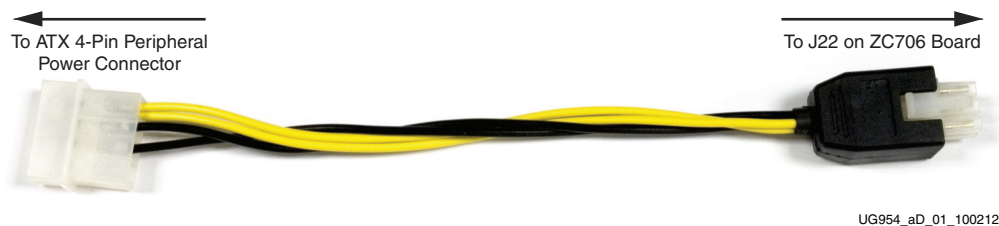

Figure D-1: ATX Power Supply Adapter Cable
When the ZC706 board is used inside a computer chassis (that is, plugged in to the PCIe® slot), power is provided from the ATX power supply 4-pin peripheral connector through the ATX adapter cable shown in Figure D-1 to J22 on the ZC706 board. The Xilinx part number for this cable is 2600304, and is equivalent to Sourcegate Technologies part number AZCBL-WH-1109-RA4. For information on ordering this cable, see [\[Ref 37\]](#).
8. Connect the ATX power supply to the ZC706 board using the ATX power supply adapter cable as shown in Figure D-1: